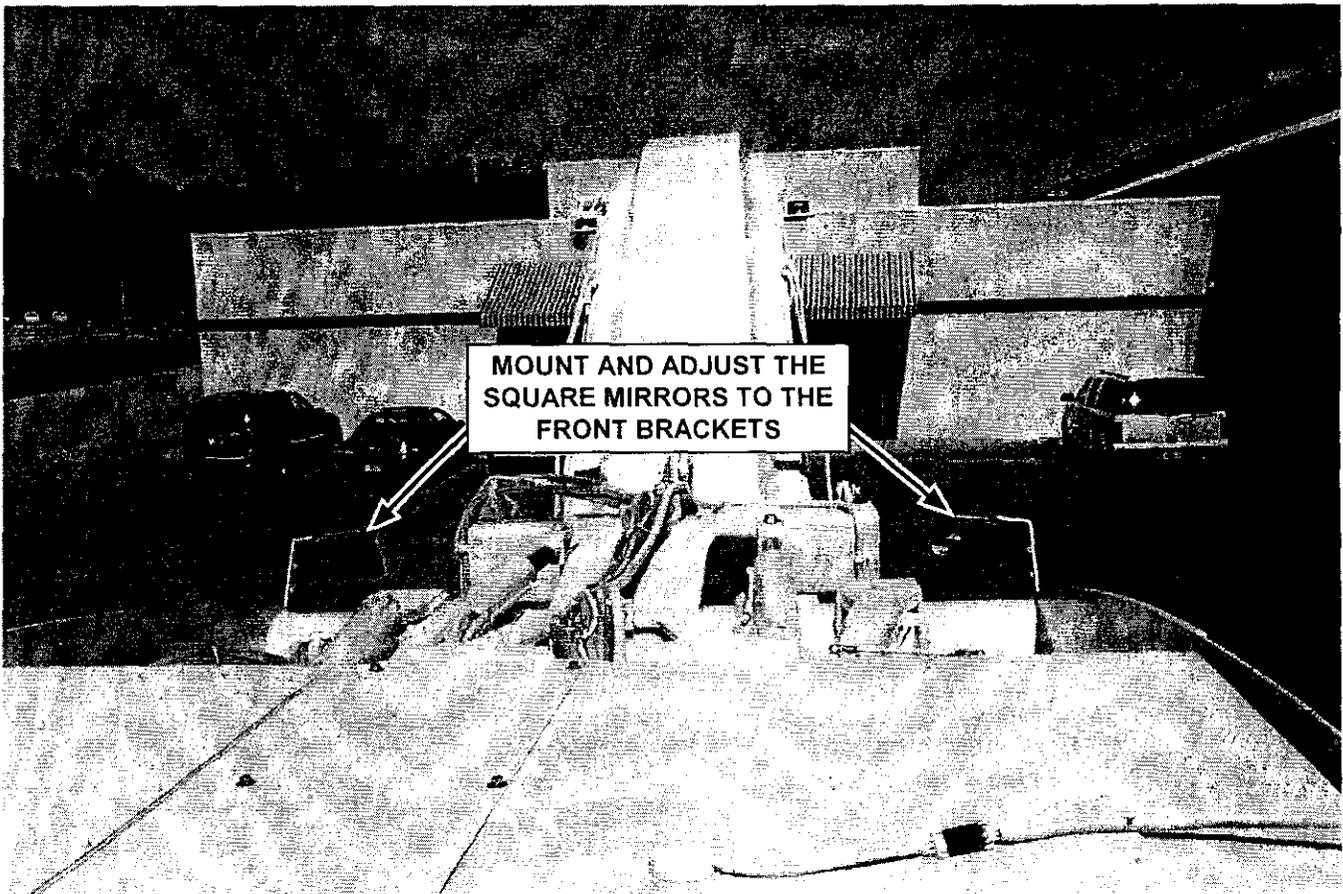

FIGURE 72
1. Mount all the mirrors to their appropriate locations. The two square mirrors are mounted to the front brackets and the two round mirrors are mounted to the rear brackets (figures 72 & 73).
2. Adjust all the mirrors so that the operator achieves the best possible visibility around the machine (figures 72 & 73).